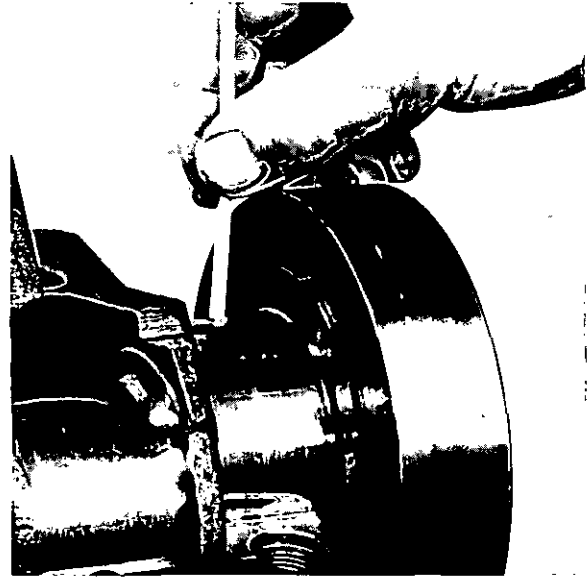

Fig. F.3
3. The two top half thrust washers can be removed by sliding them round from one side with a piece of wood or similar material and rotating them until they can be removed (Fig. F.3).